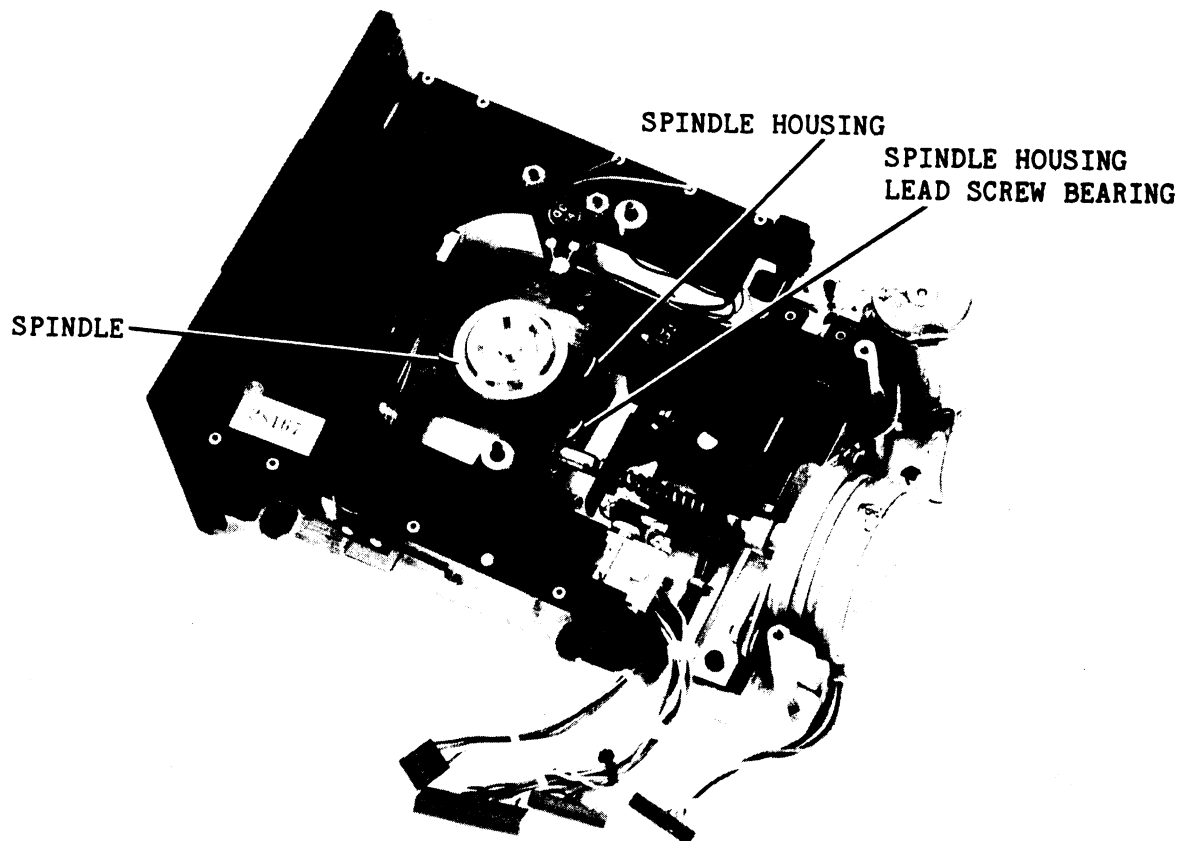

Figure 6-10. Spindle Housing Details
- d. Remove the three spindle housing mounting screws and remove the spindle housing (and spindle) from the drive mechanism by raising the housing from the chassis and sliding it toward the bezel (toward the front of the drive) until the lead screw is free of the bearing in the housing. See Figure 6-10.